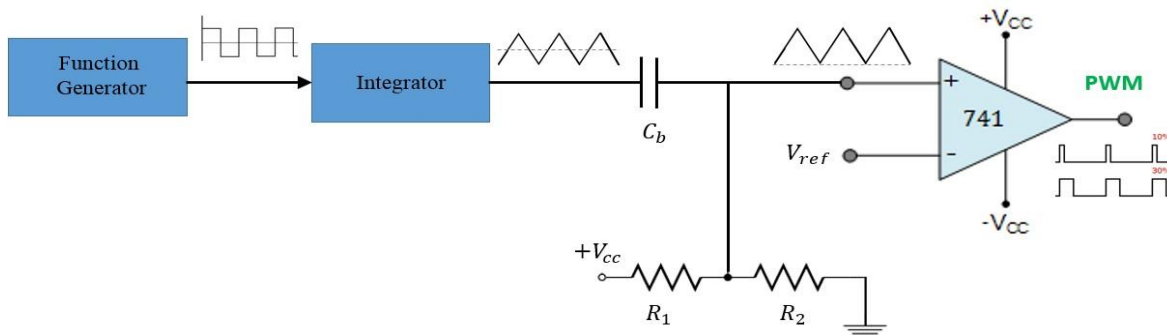

Fig. 6. PWM circuit for procedure step 4.
4. Refer to the block diagram of the PWM circuit in Fig. 6. The PWM circuit uses a second LM 741 op amp as the comparator. The triangle wave output from the integrator circuit is used as one of the comparator inputs, but with a dc offset added to it. The triangle wave is connected to a resistor divider offset circuit by blocking capacitor C_b . A third adjustable power supply voltage is used as V_{ref} .